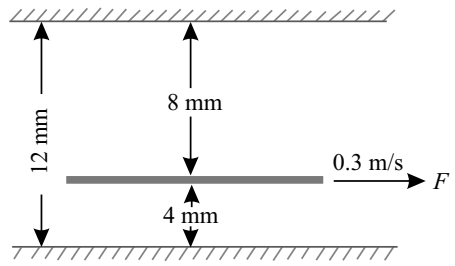

Fig. 1.13
- When the thin plate is at a distance of 40 mm from one of the plane surfaces: Refer to Fig. 1.13.